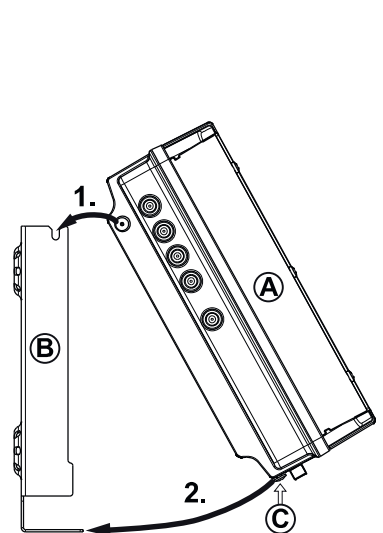

Fig. 3: Insert the head-end
1. Mount the wall mounting plate horizontally on the mounting surface; see ⓑ in Fig. 3. Points to note:
2. Insert the head-end ⓐ into the wall mounting plate ⓑ; see Fig. 3.